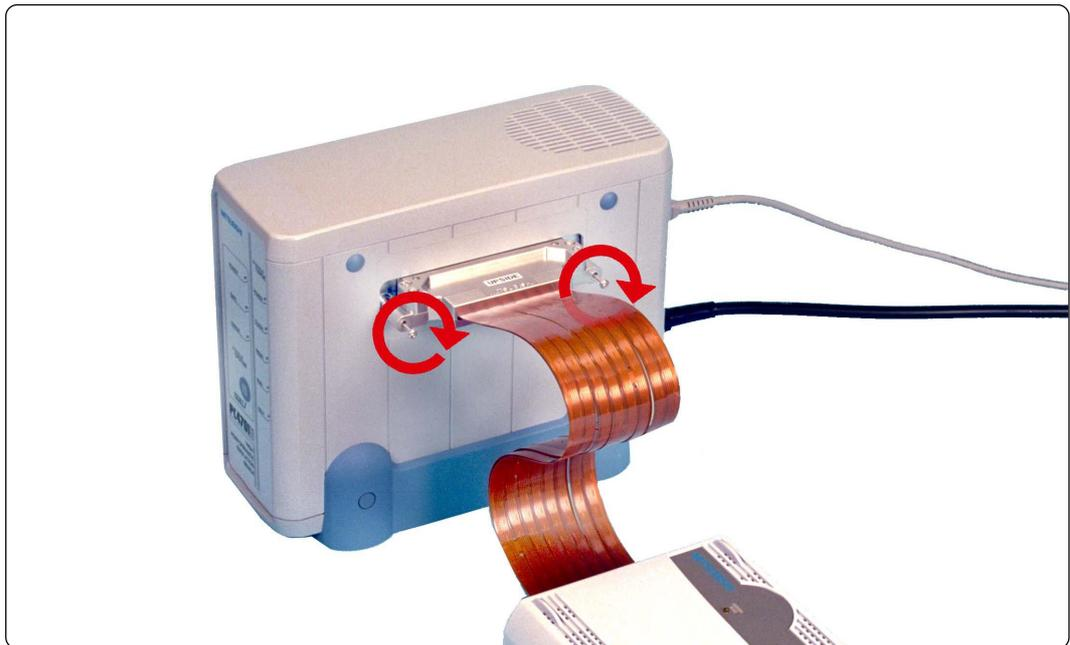

Figure 4.9 Connecting emulation pod
▶ *Figure 4.9 Connecting emulation pod (below)*